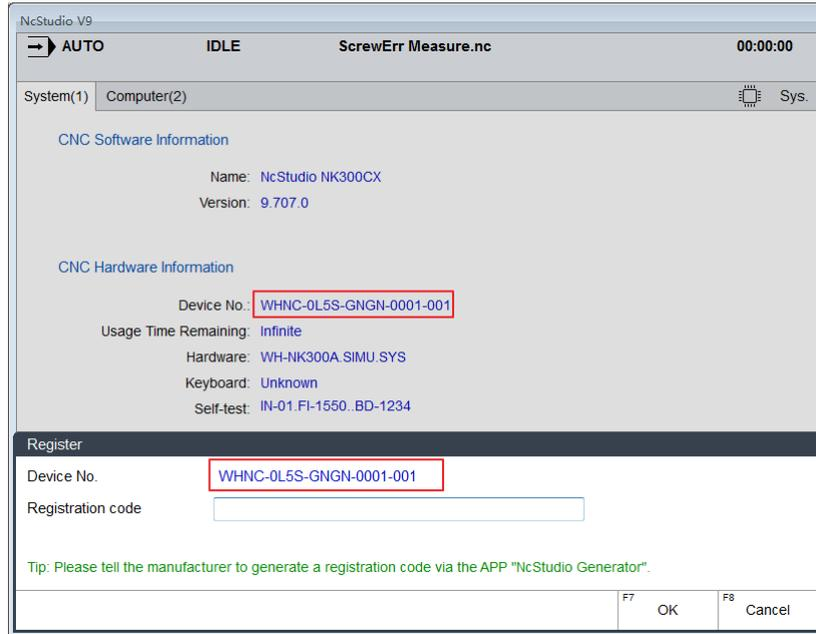

Fig. 3-90 View Device Number
- 1) In interface 「System (1)」 under functional area [System], view the current device number. Or you can view the device number in dialog box “Register” after pressing F1 in the interface 「System(1)」, as shown in Fig. 3-90. The number is also the device number shown in Fig. 3-87.
- 2) Input the registration code generated in the APP into the input box “Registration code” in dialog box “Register”, as shown in Fig. 3-90. Then press F7 to confirm.
- 3) The system prompts “Register successfully. Please restart software!” Restart the machine. After restart, you can view the current left time for use in interface [System (1)] in functional area [System].